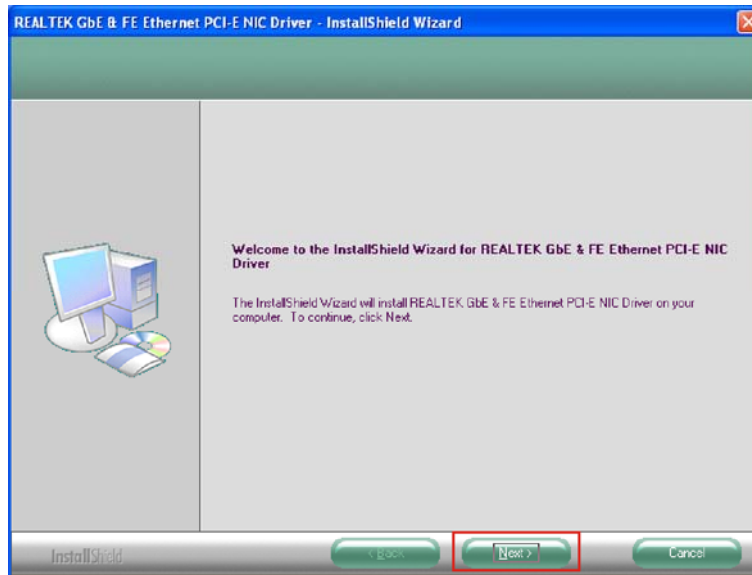

Figure 7-16: LAN Driver Welcome Screen
Step 3: The **Welcome** screen in **Figure 7-16** appears.